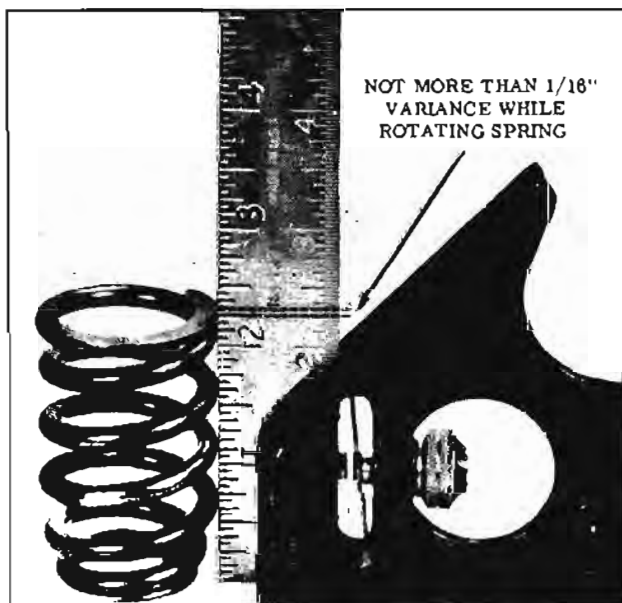

Fig. 8-115 Valve Spring Height
- a. Occasionally this noise can be eliminated by rotating the valve spring and valve. Crank engine until noisy valve is off its seat. Rotate spring 90°. This will also rotate valve. Repeat until valve becomes quiet. If correction is obtained, check for an off square valve spring. If spring is off square more than 1/16" in free position, replace spring. (Fig. 8-115)